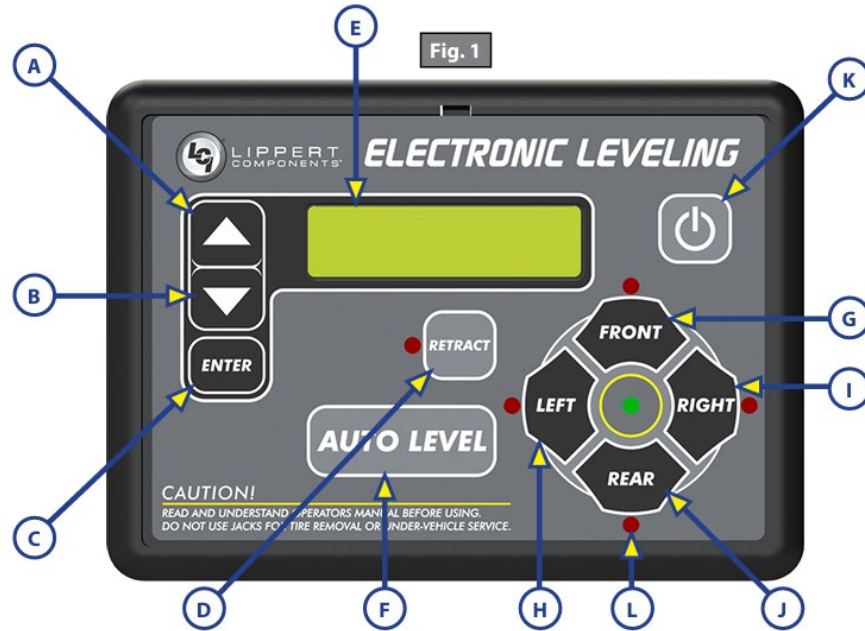

Figure 14. Lippert Level-up hydraulic system touch pad.
- Using the Up arrow (Figure 14 A) the following menu selections are available:
1. After disconnecting from your vehicle, locate the leveling touch pad on the unit (Figure 14) mounted at the front of the Off Door Side (Street Side) of the trailer.